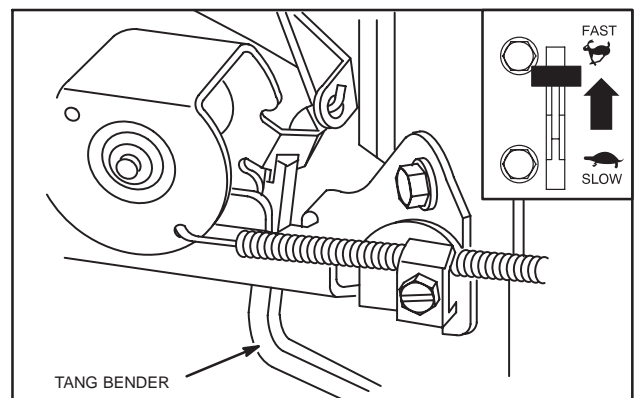

Fig. 28 – Adjust Top No Load Speed
- a. Bend tang to obtain correct RPM, Fig. 28.